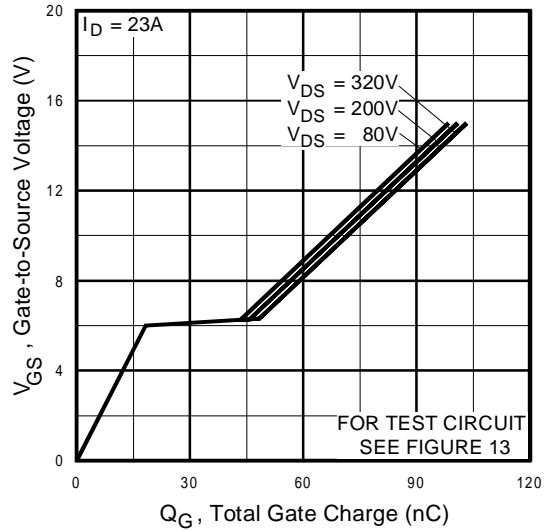

Fig 6. Typical Gate Charge Vs. Gate-to-Source Voltage
| Q_g | Total Gate Charge | — | — | 110 | nC | $I_D = 23A$ $V_{DS} = 320V$ $V_{GS} = 10V$, See Fig. 6 and 13 ④ |